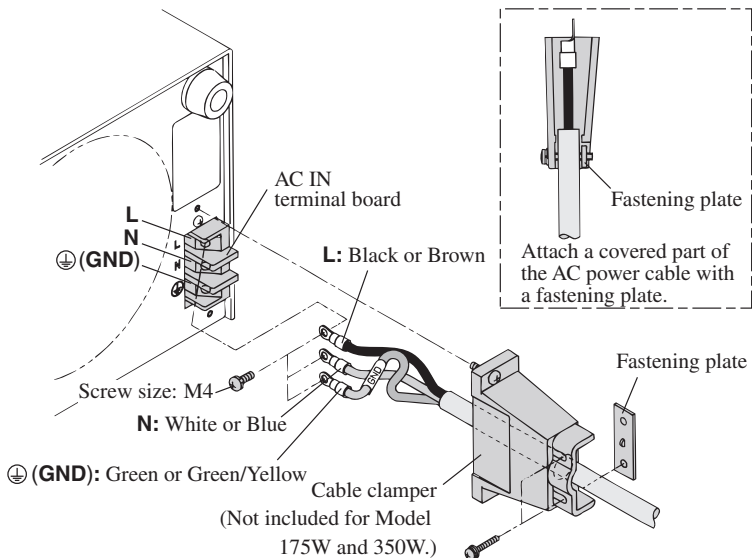

Fig.1-10 Connection of AC power code
1. Connect the supplied AC power code to the terminal board as shown in Fig.1-10.
NOTE • Fig.1-10 shows the connections on the model 700W. Connections on model 1000W can be performed in the same manner.